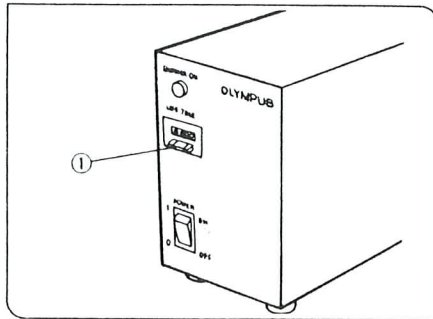
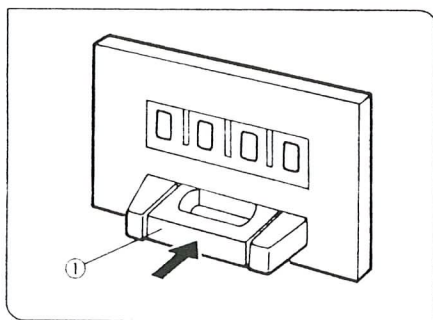

Fig. 9
Fig. 10
1. Press the center of the reset button ① (Fig. 10) on the power supply unit's front panel ① (Fig. 9) to reset the burner life indicator to 000.0.